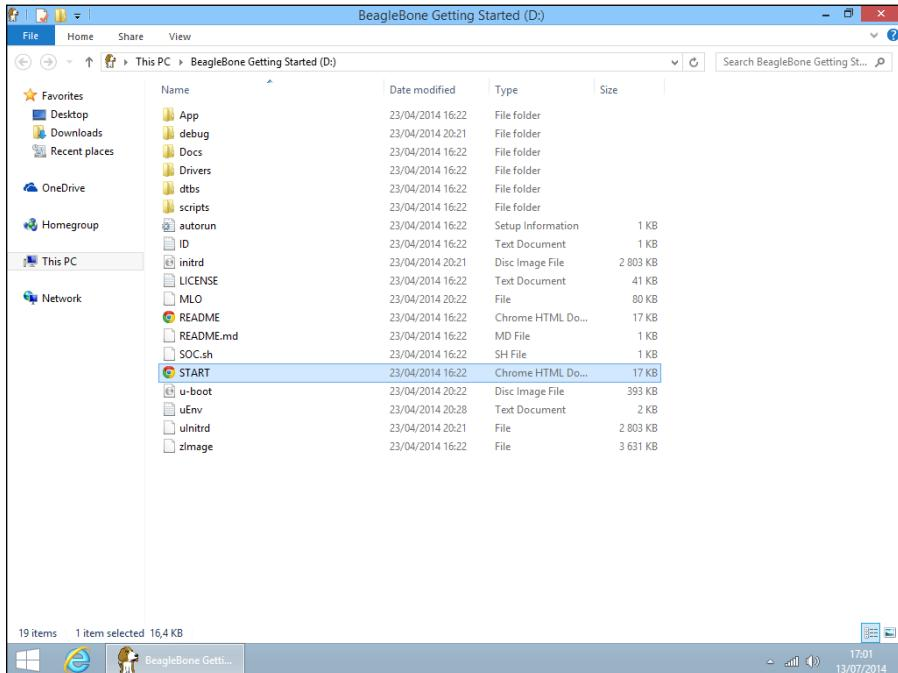

Figure 3-1:
- 3. Open the file called `START.htm` in your default web browser (see Figure 3-1).**